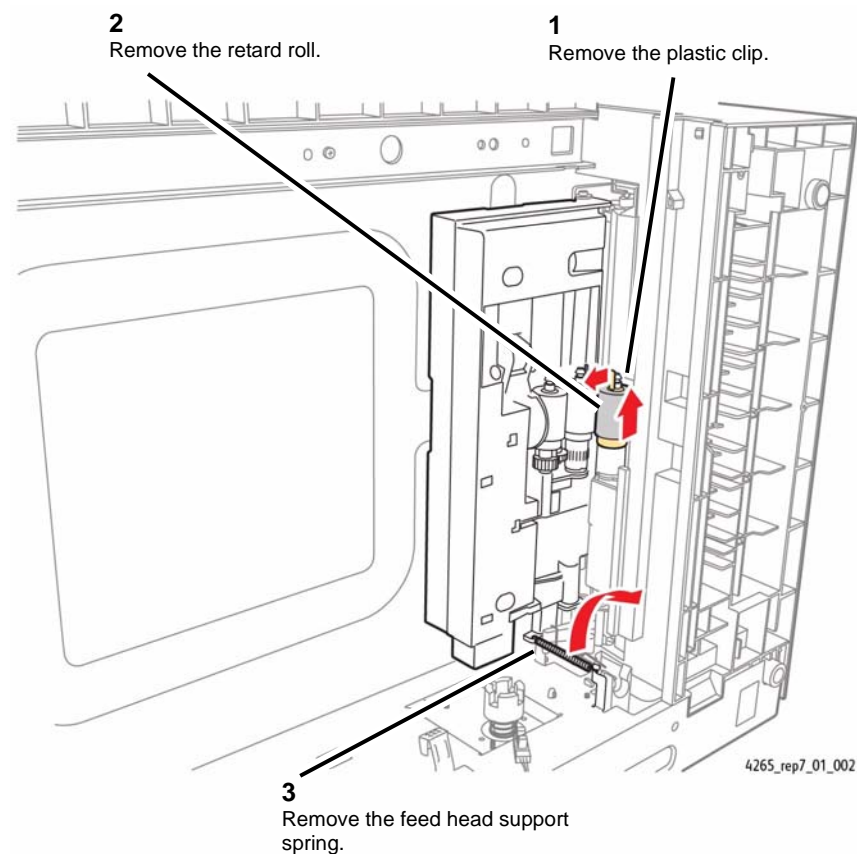

Figure 2 Removing the Retard Roll and Spring
8. Remove the feed head support spring and retard roll (Figure 2).